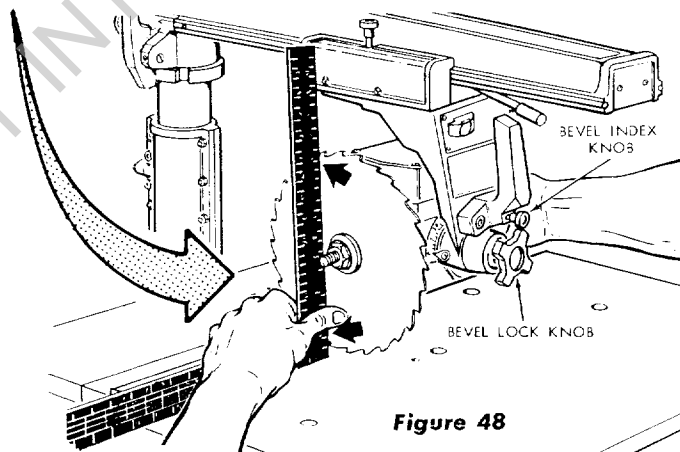

Figure 48
- (b) While holding the motor with one hand (figure 48) and the square with the other hand, tilt the motor until saw blade is square with table top. Then, while holding the square firmly against the saw blade and table top, tighten the bevel lock knob firmly to hold the blade in position.